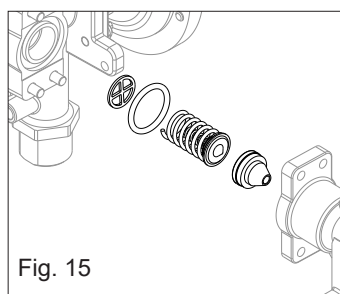

Fig. 15
- Extract the large spring and the small spring/modulation valve set (fig. 15)
- Insert the valve and the large spring, taking care with the direction of the insertion and making sure that the drilled spring guide disc is in its correct position (fig. 15)